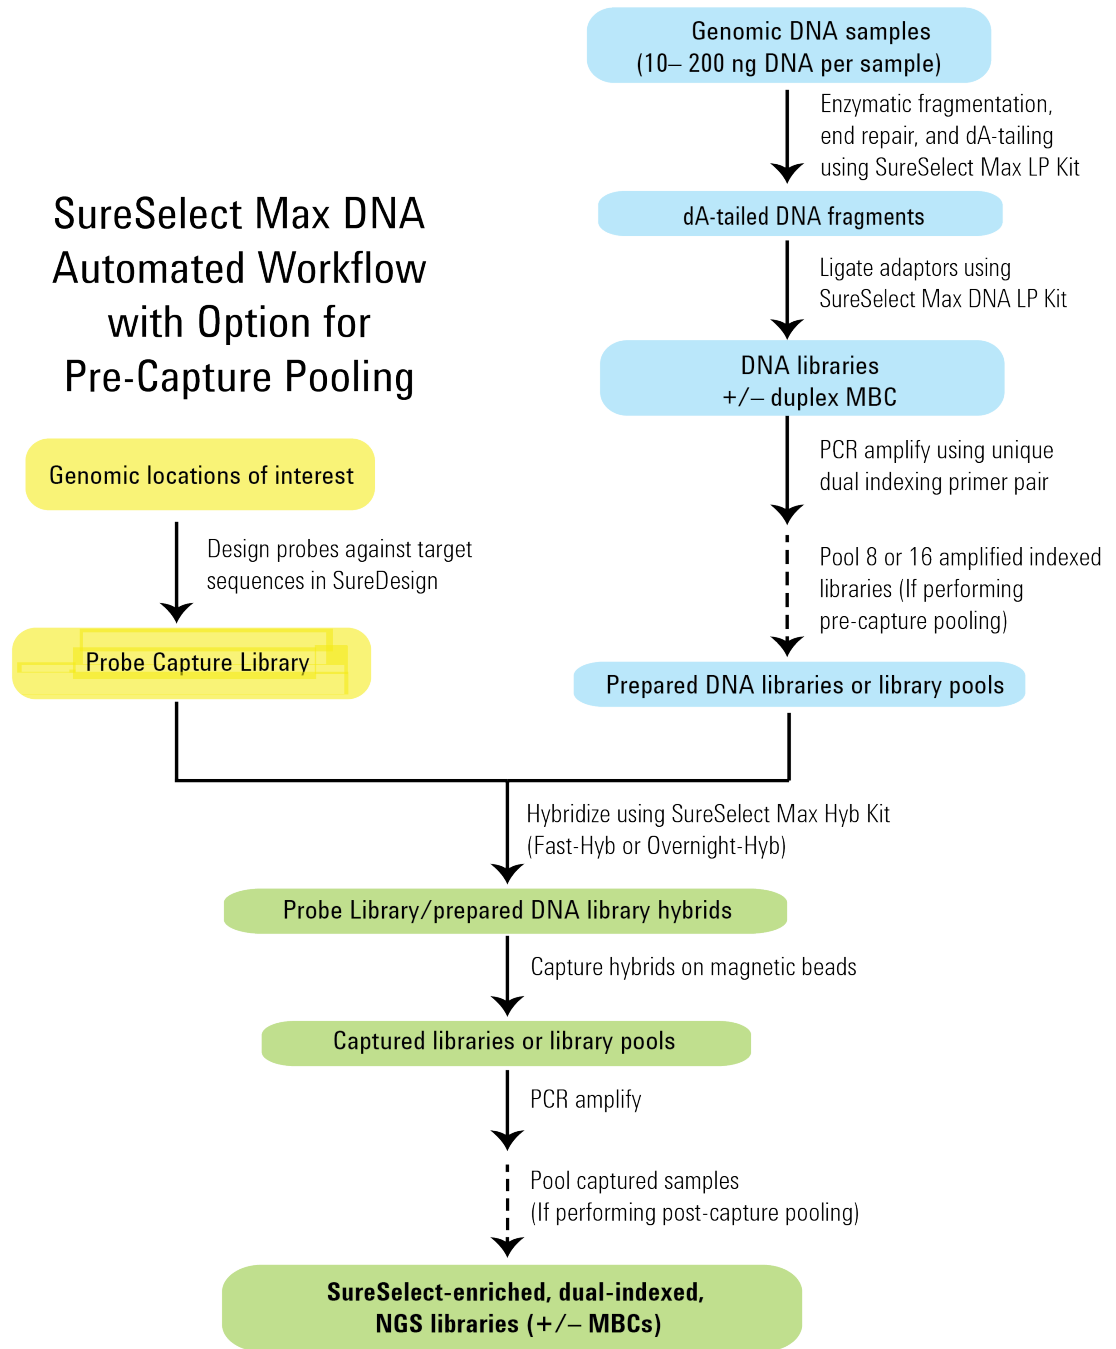

Figure 4 Overall sequencing sample preparation workflow
Figure 4 summarizes the SureSelect Max DNA library preparation and target enrichment workflow for DNA samples to be sequenced using the Illumina paired-read sequencing platform. For each sample, the workflow includes enzymatic fragmentation, library preparation, hybridization, and captures.
- At the hybridization step (see Figure 4), you can add a different Probe to each row of the plate. Plan your experiment such that each prepared DNA library corresponds to the appropriate probe row in the sample plate.
- For post-capture amplification (see Figure 4), different probes can require different amplification cycle numbers, based on the probe design sizes. It is most efficient to process similar-sized probes on the same plate. See Table 89 on page 127 to determine which probes may be amplified on the same plate.